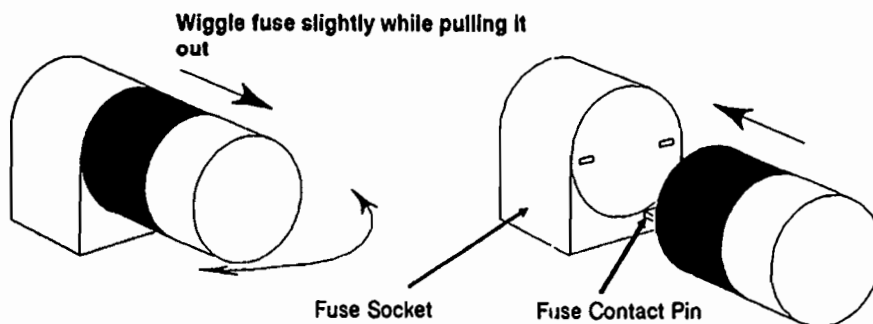

Figure 2-3. Replacing the TERMPWR Fuse
2. As shown in figure 2-3, pull the fuse out of its socket. It is usually a good idea to verify that the fuse is open by using a continuity tester.